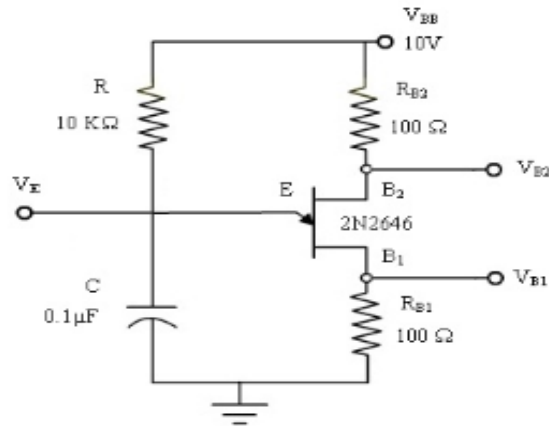

Fig. 3: Circuit
1. Assemble the circuit on a bread board as given in the Figure 3.